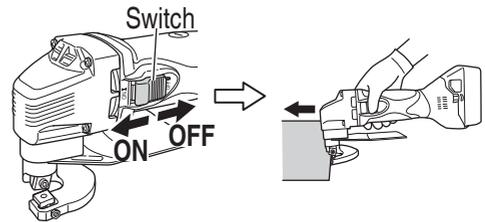

Fig. 9
1. Switch the unit on. (Fig. 9)
2. Lightly place the application tool on the material and move the application tool forward at a pace where the movement isn't slowed. (Fig. 9)
When cutting thin panels, level the unit horizontally, as shown in Fig. 9.
To facilitate smooth cutting of thick panels, if the cut-off side goes toward the left, (Fig. 9) raise the rear of the unit slightly. And if the cut-off side goes toward the right, lower the rear of the unit slightly.